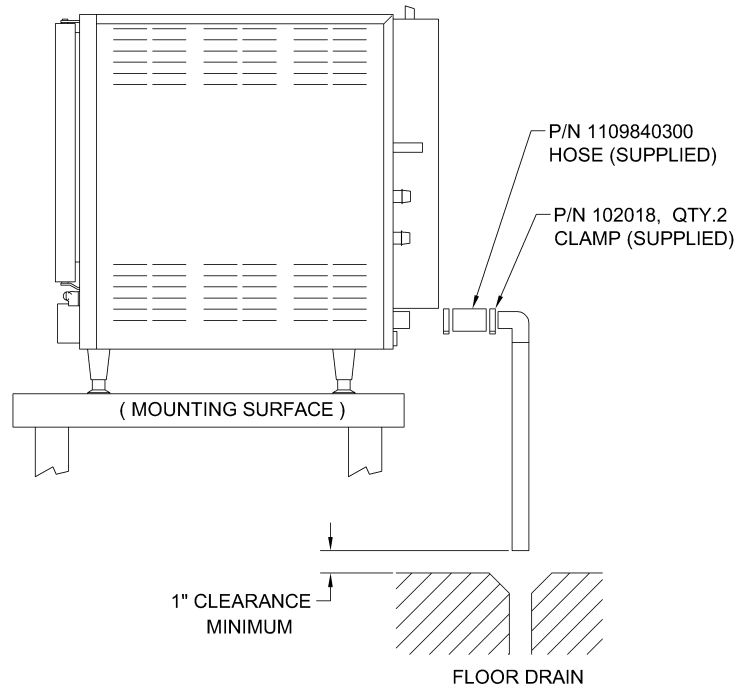

Figure 3-7
3. Free air venting requires a minimum 1" clearance between the end of the drain line and the top of the floor drain. See Figure 3-7.